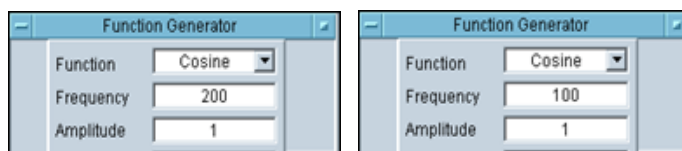

Figure 1-14 Changing the Frequency data field
- 1 Drag the mouse pointer across the Frequency numbers in the white area (data field); change the displayed numbers from 200 to 100 **OR** double-click on the Frequency white area (data field) and enter: 100. See Figure 1-14.